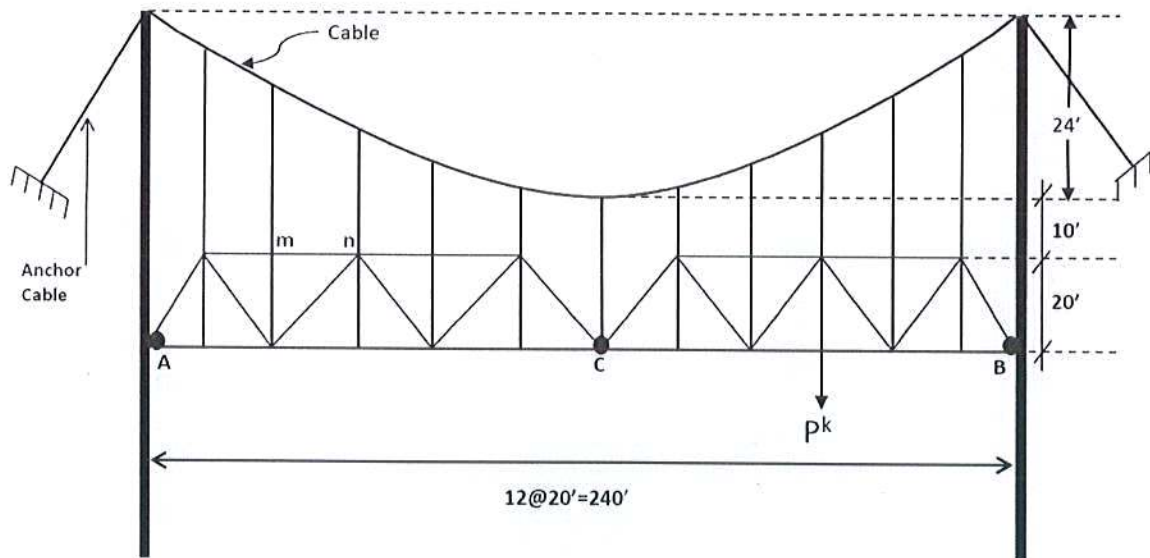

Fig: 6
7. For the Suspension bridge with parabolic cable and two stiffening trusses shown in Fig 6, determine the maximum and minimum tension of the cable. The trusses are pin connected at C, Supported by a pin at A and roller at B. Also Calculate the force in truss member mn. (13)